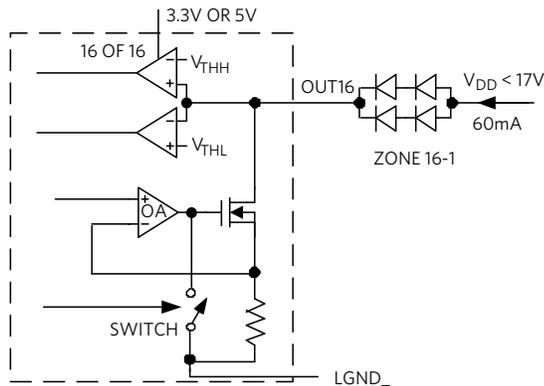

Figure 4. A diagram of an LED driver showing one of 16 channels.
One of 16 channels is shown in Figure 4. The MOSFET/op amp/resistor ensemble is the current sink that powers the 2s2p LED string, which can be dimmed with a switch via the op amp (OA) or shutoff. Two comparators provide overvoltage (V_{THH}) and short-to-ground protection (V_{THL}). The minimum channel output voltage V_{OUT} (OUT16 in Figure 4) is 0.8V.